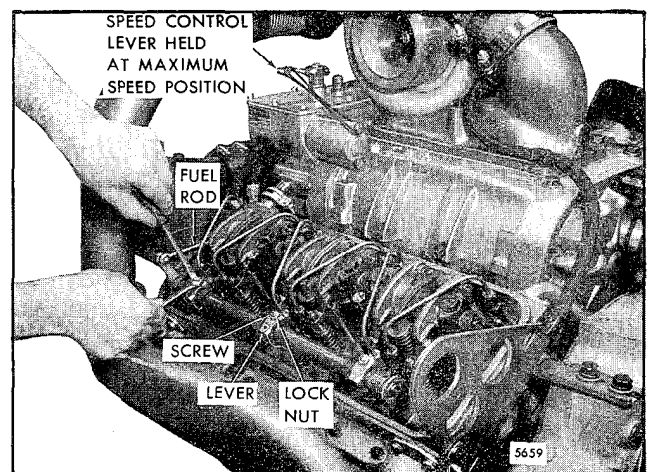

Fig. 3 - Positioning No. 1 Injector Rack Control Lever (One Screw and Lock Nut Assembly)
a. On the current spring-loaded injector control tubes, tighten the adjusting screw of the No. 1L injector rack control lever until the injector rack clevis is observed to roll up or an increase in effort to turn the screwdriver is noted (Fig. 3). Tighten the screw approximately 1/8 of a turn more and lock securely with the adjusting screw lock nut. This will place the No. 1L injector rack in the full fuel position.